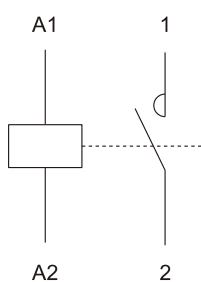

Fig1 16/10~25/10
Overall and installation dimensions, see Fig 1.
4.6 Wiring diagram: see Fig1 to Fig5